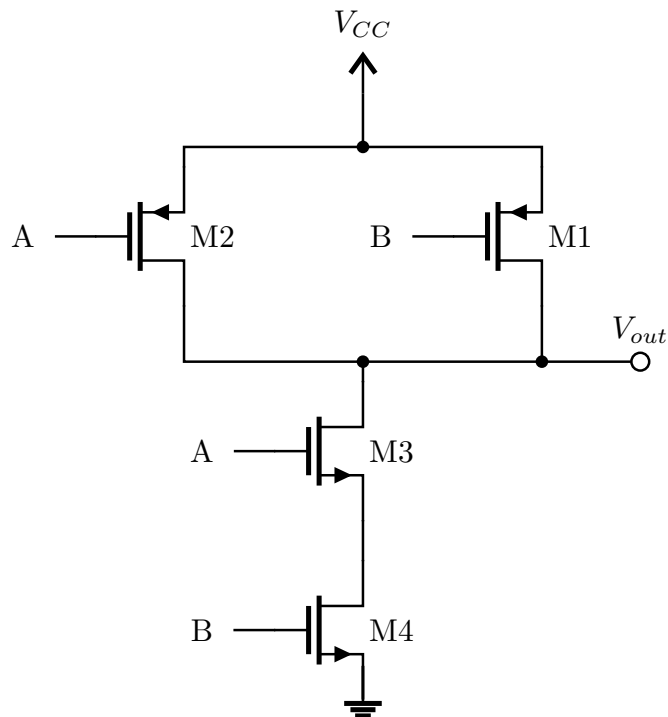

Fig. 5
(c) A CMOS 2-input NAND gate is given in Fig. 5. Take $k'_N = 2k'_P$. Use
- (i) Find the required $\left(\frac{W}{L}\right)$ ratio for PMOS transistors of the NAND gate in Fig. 5 such that the rise time, t_r^{NAND} , for the output when the input is AB=00, is equal to the fall time, t_f^{NAND} . [15%]